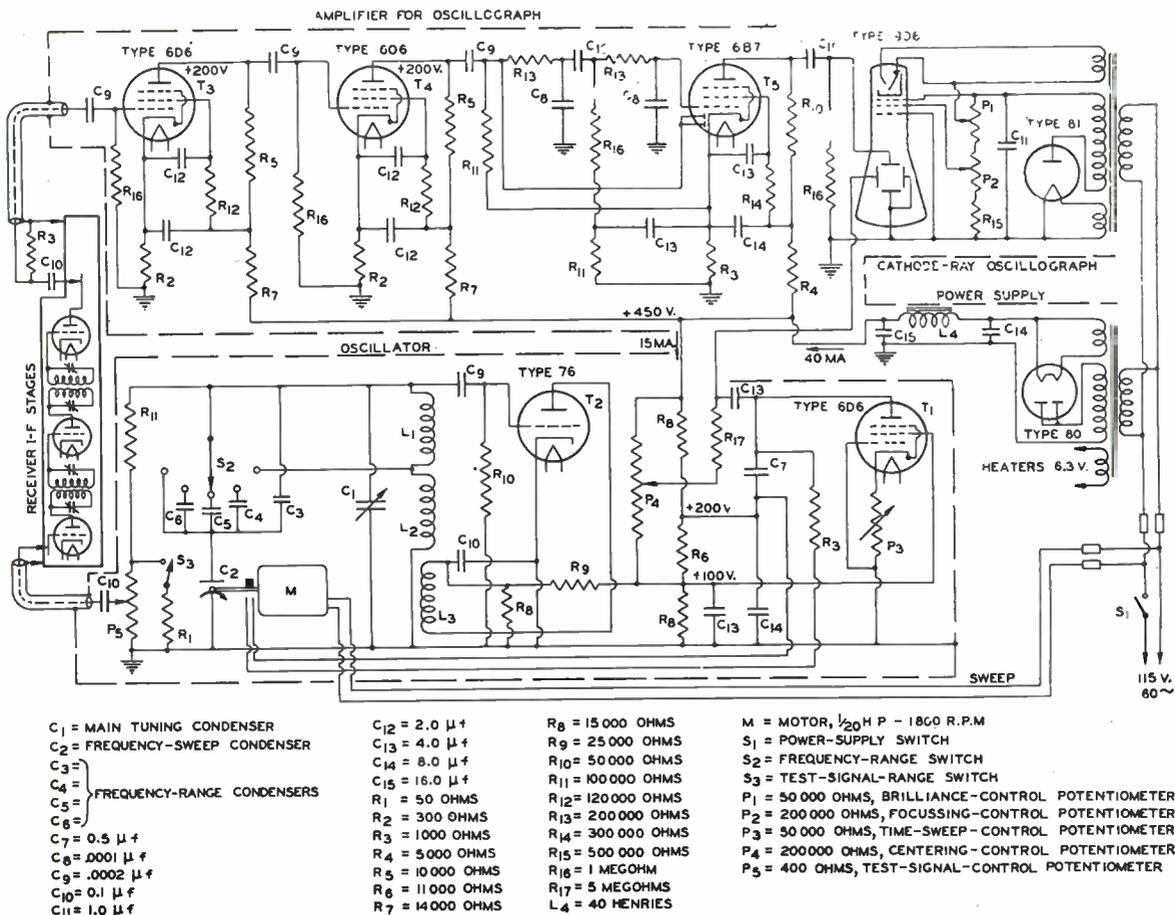

Fig. 1. Circuit of the cathode-ray oscillograph apparatus designed for the alignment of tuned circuits.
Fig. 1 is a diagram showing the multiplier and its circuit when used to multiply
Fig. 1. Diagram showing the multiplier and its circuit when used to multiply electrons in a beam entering the multiplier chamber along a line indicated by the arrow A.
Explanation of these properties is simple in general, although the detailed analysis presents certain obscurities which render its presentation here undesirable. An electron, either a photoelectron or an electron from the streamer A in Fig. 1, liberated at one of the cathodes, is accelerated toward the other cathode by the anode voltage, and is prevented from striking the anode by the magnetic field which converts the transverse component of the electron's motion into an arcuate one. Its time of flight is determined by the distance between the plates and the velocity imparted to it by the anode potential plus the integrated effect of the potential between the cathodes. The latter factor determines whether (1) it will strike the other cathode with sufficient velocity to cause emission of secondary electrons, (2) strike with a lesser velocity, or (3) fail
A resonance curve tracer employing the type 906 cathode-ray tube has been set up and operated in the laboratory of the RCA Radiotron Co. This device is designed to cover a range of intermediate frequencies of 100 kc to 500 kc and has an amplifier-detector section which is practically flat over the entire range. Since it is believed that a "Visual" of this type will be of distinct value to many laboratories as well as to manufacturers and service men who desire to improve their testing facilities, a detailed description of the instrument is given in this article. Fig. 1 is the schematic circuit diagram while Fig. 2 shows the functional layout and a suggested arrangement for a portable resonance curve tracer. It should be borne in mind that the principles and methods involved in this application can be applied to obtain the curves of any form of tuned circuit and that the frequency range is not limited to the 100-500 kc of the apparatus illustrated.
given frequency band. To obtain this curve, it is necessary to have a voltage source, which in this instance is the oscillator T_2 of Fig. 1, and to have a source of variable frequency covering a range which extends above and below the resonant frequency. The frequency variation to sweep across the frequency range of the tuned circuit can be accomplished manually by hand manipulation of a condenser or it can be speeded up to thirty times a second as is done in this case by means of an 1800-rpm motor. The fluctuating output voltage of the stage is then amplified, rectified, and again amplified, and finally applied to one set of the deflecting plates of a cathode-ray tube. The other set of deflecting plates is supplied with the sweep-frequency voltage.